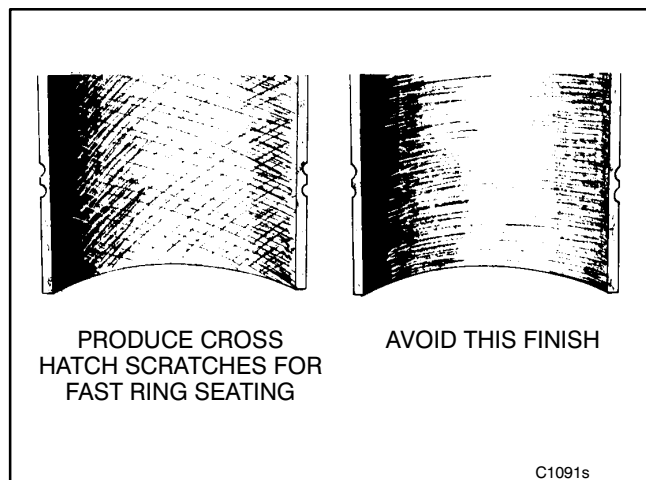

FIGURE 10-21. CROSSHATCHING
3. The deglazing tool should be driven by a slow speed drill. Move the deglazing tool up and down in the cylinder rapidly enough to obtain a crosshatch pattern as shown in Figure 10-21.